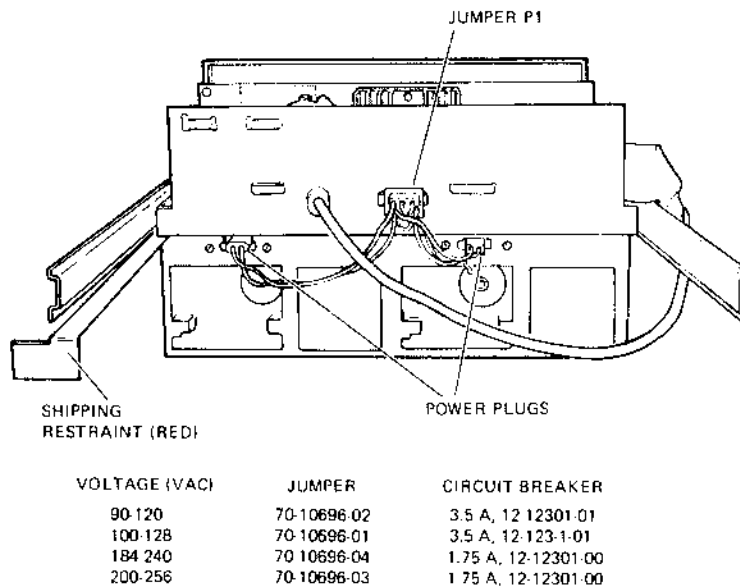

Figure 2-3 RX02 Rear View
2.1.3.2 Input Power Modification Requirements – The 60 Hz version of the RX02 uses the H771-A power supply and will operate on 90–128 Vac, without modification. To convert to operate on a 50 Hz power source in the field, the H771-A supply must be replaced with an H771-C or -D (Figure 1-4) and the drive motor belt and drive motor pulley must be replaced (Figure 1-5). The H771-C operates on a 90–120 Vac or 100–128 Vac power source. The H771-D operates on a 184–240 Vac or 200–256 Vac power source. To convert the H771-C to the higher voltage ranges or the H771-D to the lower voltage ranges, the power harness and circuit breaker must be changed. See Figure 2-3 for the appropriate jumper and circuit breaker.
4. This step is for 50 Hz versions only. Check the power configuration to ensure that the proper jumpers and the correct circuit breaker are installed (Figure 2-3).